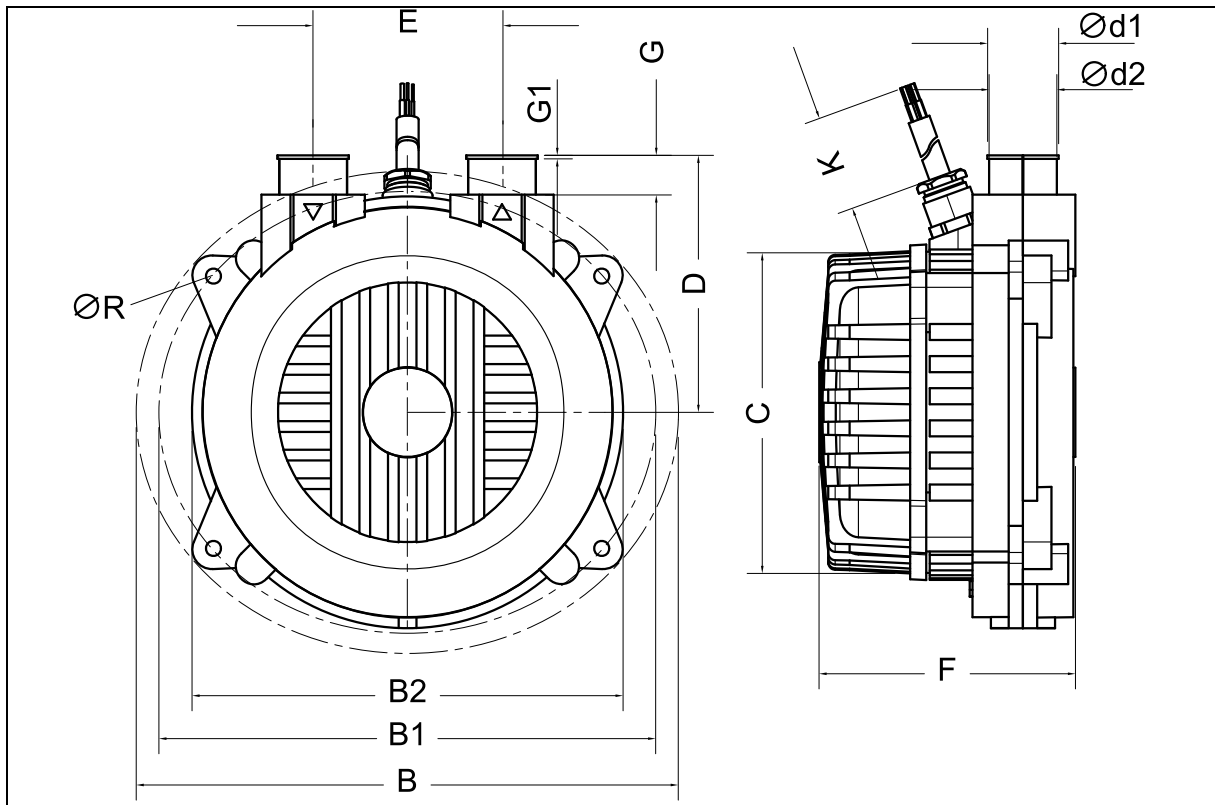
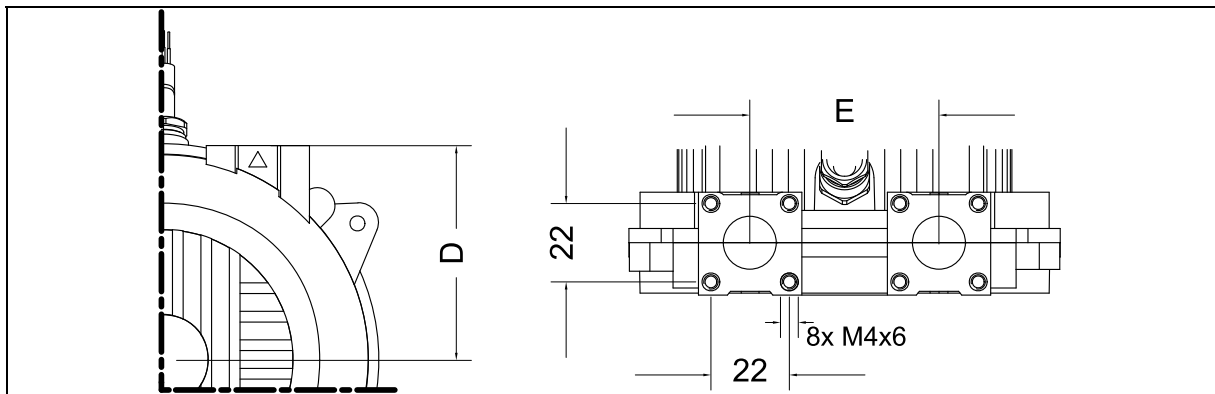

Fig. 1: Dimensions of the 2BH1002-0.... (hose connection)
Fig. 2: Dimensions of the 2BH1002-1.... (flange connection)
Dimensions	see Fig. 1 & Fig. 2, page 8
- Fig. 1: , page 8,